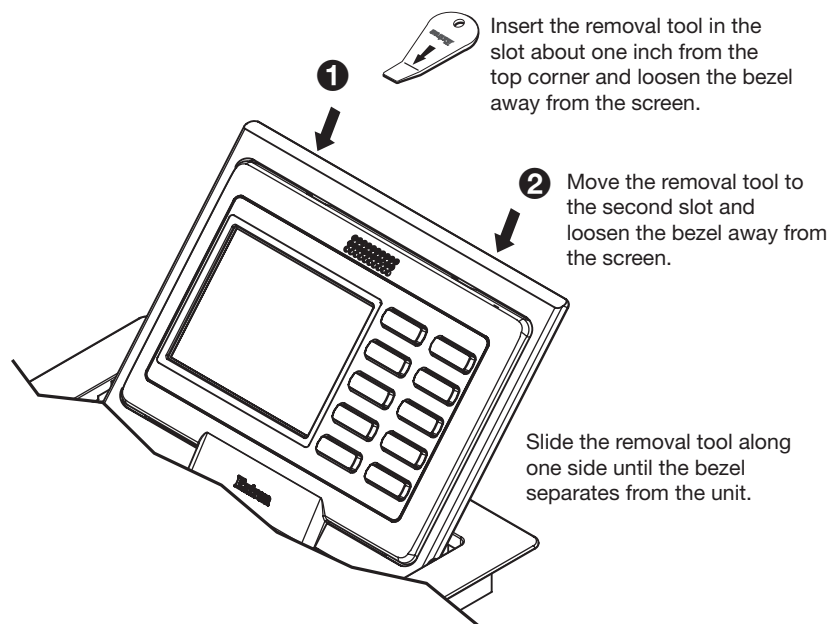

**Figure 10. Removing the Bezel**
With the lid open, remove the front panel bezel, as shown in figure 10, using the Extron removal tool.
**I Bezel removal slots** — for removing bezel, using Extron removal tool (see figure 10 on page 15).